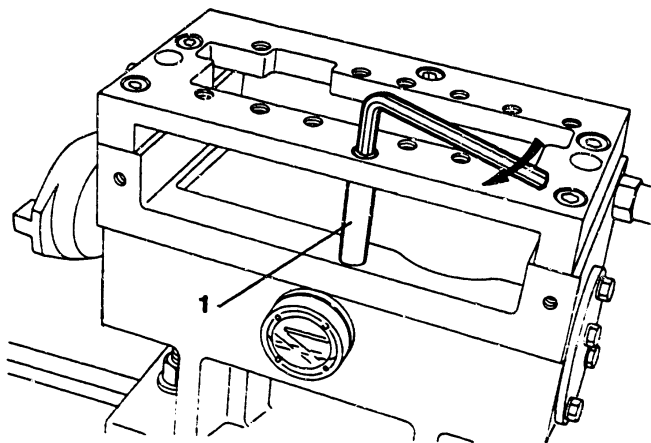

Fig. 19 Installing the collar
- 4.** Install the two collars (12A) between the holder (13A) and the stand (1) as shown in Figure 19.